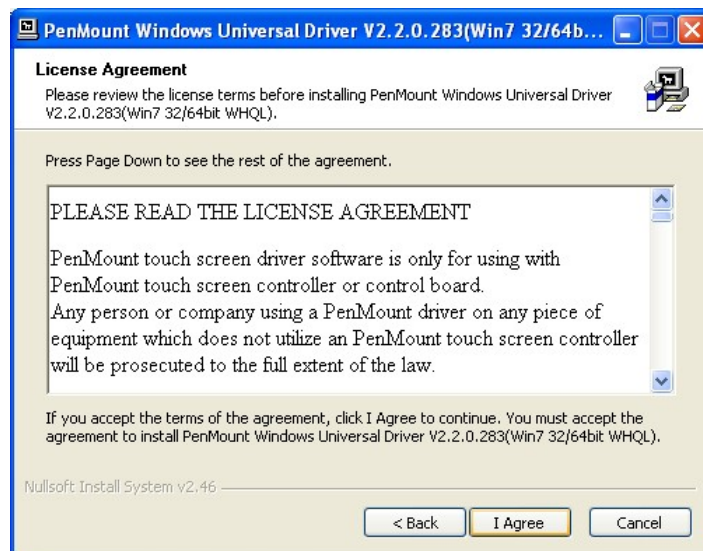

Figure 4-3: License Agreement
Step 7: The license agreement in **Figure 4-3** appears. Accept the terms of the agreement by clicking **I Agree**.